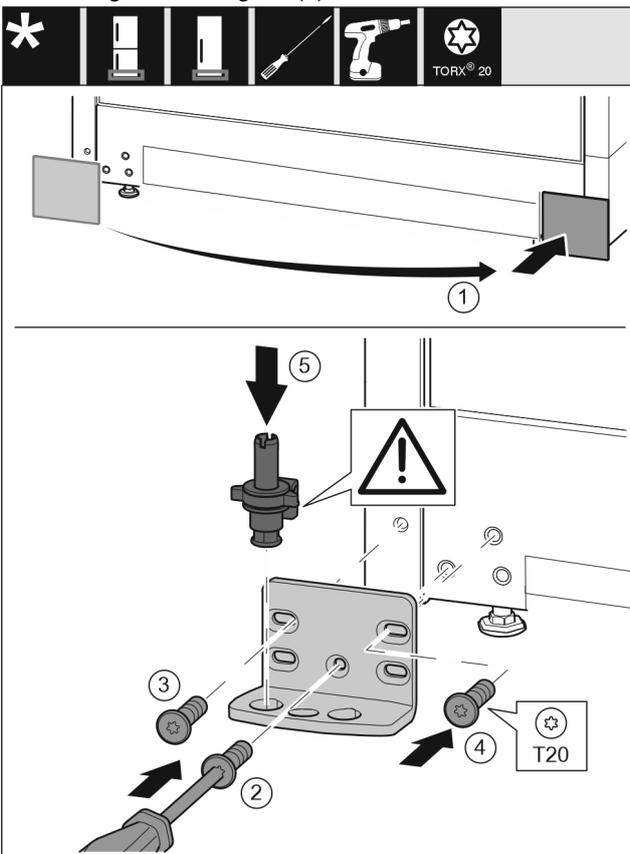

Fig. 16
- ▶ Remove the cover and attach it on the other side. Fig. 16 (1)
- ▶ Place the bearing bracket on the other side and screw it in using the T20 screwdriver. Start with screw 2 at the bottom in the middle. Fig. 16 (2)
- ▶ Screw in screws 3 and 4. Fig. 16 (3,4)
- ▶ Insert the bearing pin completely. Make sure that the latching lug is pointing to the rear. Fig. 16 (5)